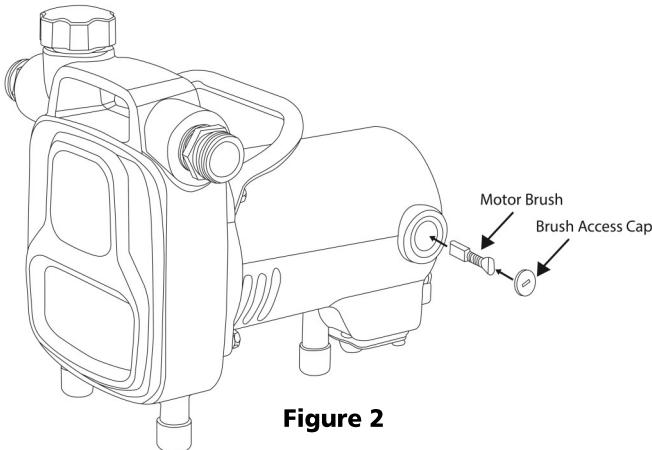

Figure 2
2. Remove brush caps with a screwdriver. See Figure 2.